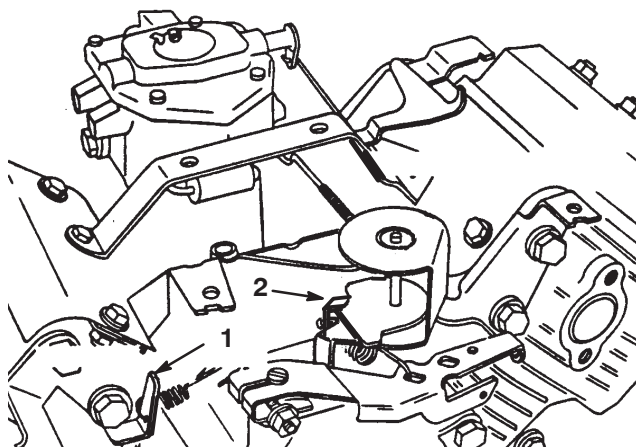

Figure 36
3. Bend the governed idle spring anchor tang (Fig. 36) to attain an idle speed of 1625 ± 50 rpm. Check the speed with a tachometer.
5. Move the throttle control to the Fast position. Bend the high speed spring anchor tang (Fig. 36) to attain a high speed of 2850 ± 50 rpm.